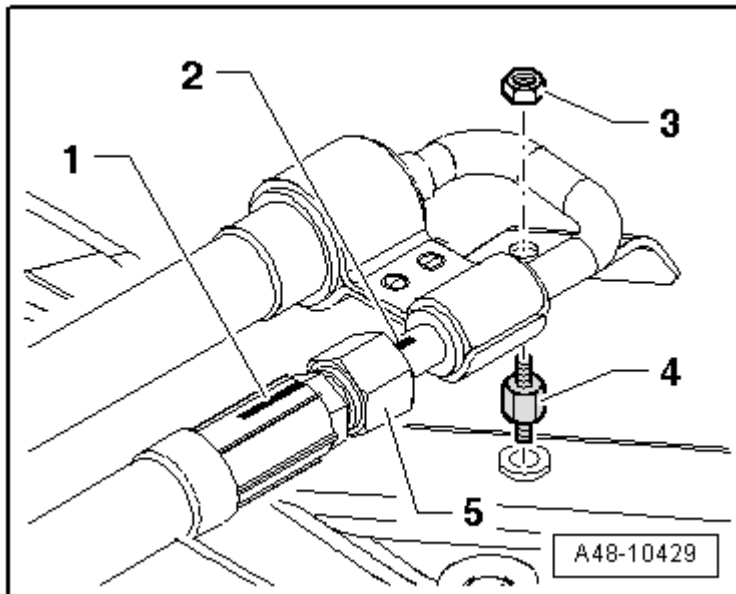

Fig. 44: Pressurized Line To Crossbrace
6. Pressurized line to crossbrace, refer to **Fig. 44**
7. Pressure line connection installation location, refer to **Fig. 44**